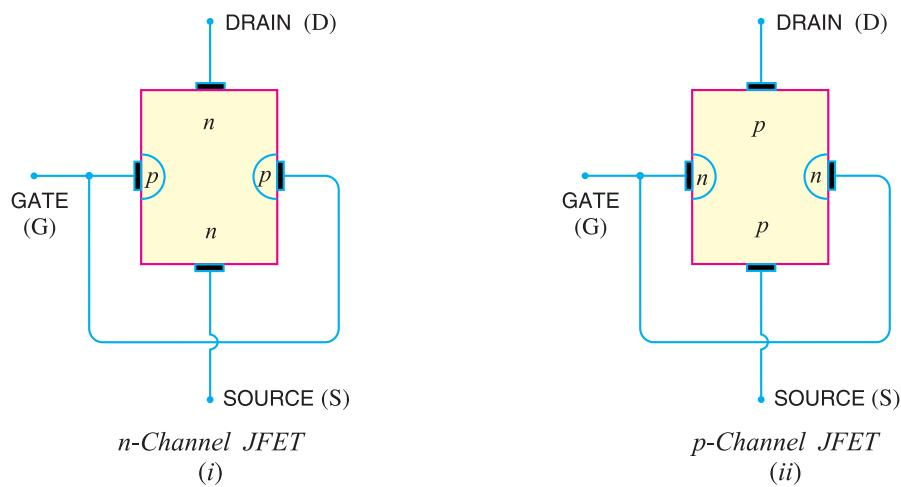

Fig. 19.1
Constructional details. A *JFET* consists of a *p*-type or *n*-type silicon bar containing two *pn* junctions at the sides as shown in Fig. 19.1. The bar forms the conducting channel for the charge carriers. If the bar is of *n*-type, it is called *n-channel JFET* as shown in Fig. 19.1 (i) and if the bar is of *p*-type, it is called a *p-channel JFET* as shown in Fig. 19.1 (ii). The two *pn* junctions forming diodes are connected *internally and a common terminal called *gate* is taken out. Other terminals are *source* and *drain* taken out from the bar as shown. Thus a *JFET* has essentially three terminals *viz.*, *gate* (*G*), *source* (*S*) and *drain* (*D*).
* It would seem from Fig. 19.1 that there are three doped material regions. However, this is not the case. The gate material *surrounds* the channel in the same manner as a belt surrounding your waist.